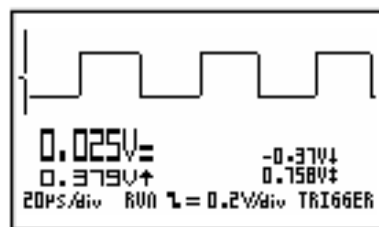

Fig 54
- 'run' = auto triggering (fig 54).